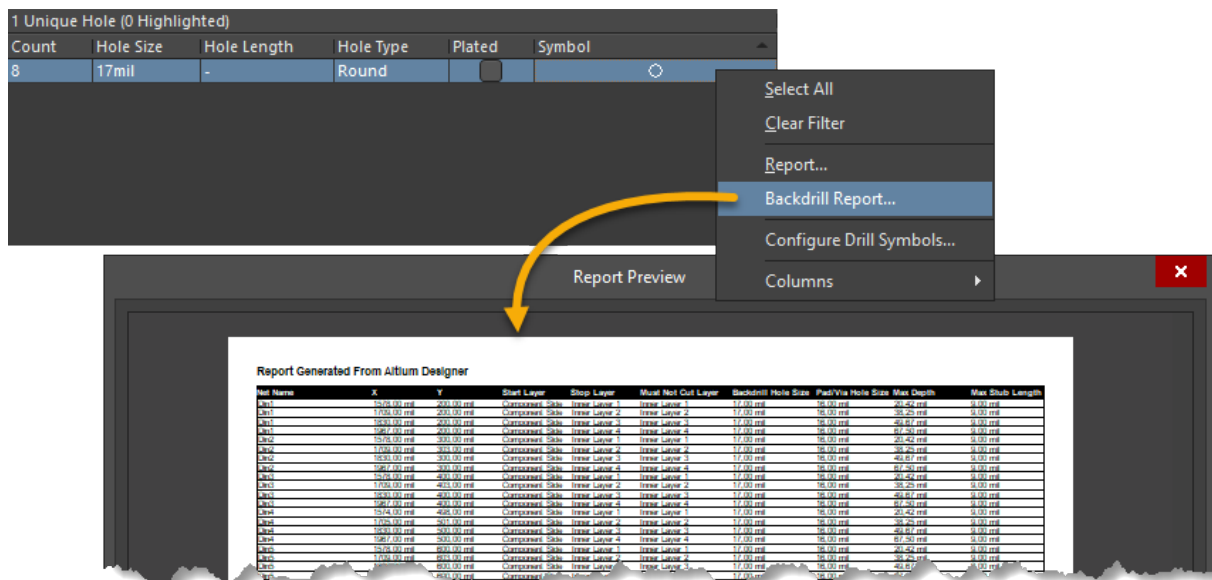

Figure 14. Back Drill Report
21. Right click on the *Hole Information* pane to generate a **Backdrill Report**, Figure 14.